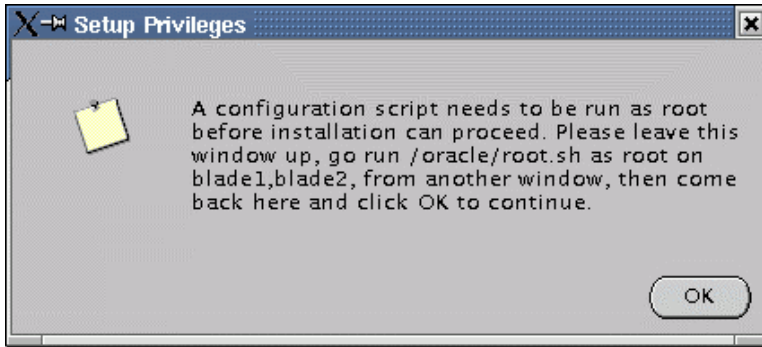

Figure 49. Setup Privileges
- Once all the CD's are installed on the first node, the OUI will install the software on each node in your cluster. A pop-up window entitled Setup Privileges will ask you to execute `root.sh` (Figure 49).